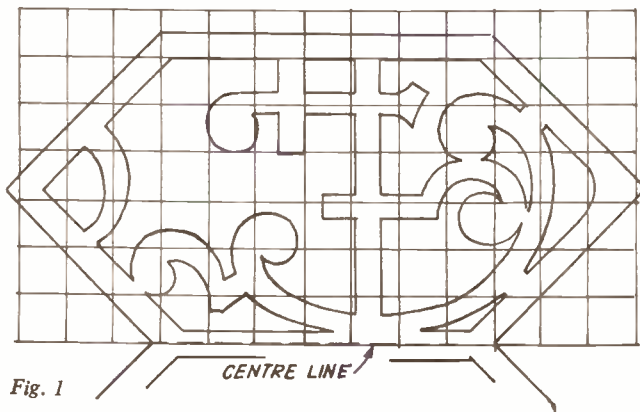

Fig. 1
We will first deal with the design shown at (A). Two pieces of either $\frac{3}{8}$ in. or $\frac{1}{2}$ in. plywood 14ins. square are required for the front and the back, and eight pieces of $\frac{3}{8}$ in. plywood to act as side spacing panels. Here it should be noted that four of the latter panels only are shown inserted at the lower slopes of the shaped front and back (see the entirely blackened sections at the left side of sketch A). The remaining four side panels may, if desired, be filled with the parchment or the thin paper so as to get reflected light on the ceiling when the lamps are lighted. For setting out the design for the front and back panels we look at the detail, Fig. 1. Here, half only has been given of one panel as it will be noted the lower half is identical and can therefore be transferred to the wood using the centre line as guide. Set out on a sheet of paper the one inch squares shown in Fig. 1, and proceed to fill in the